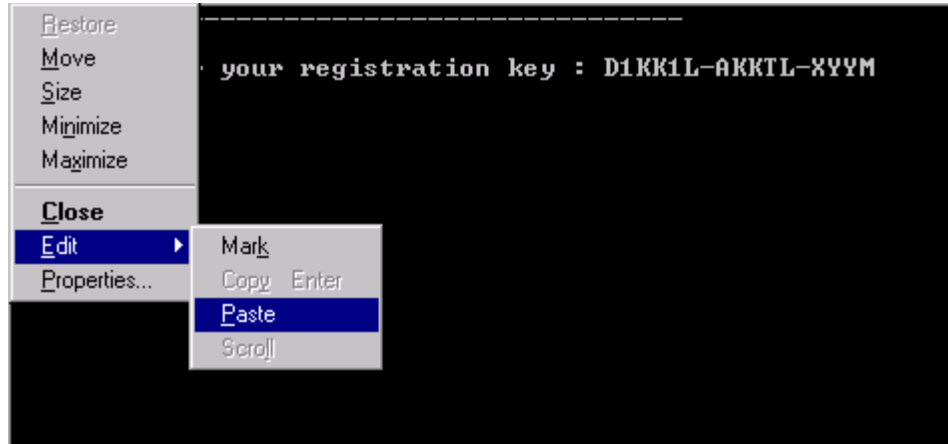

Figure 15: Paste the Registration Key into the DOS Window
1. Copy and paste the registration key from a text file or the Customer Service e-mail. Right-click on the left corner of the DOS window, and select *Edit / Paste*, see *Figure 15* on *Page 33*. The registration key can also be entered manually.